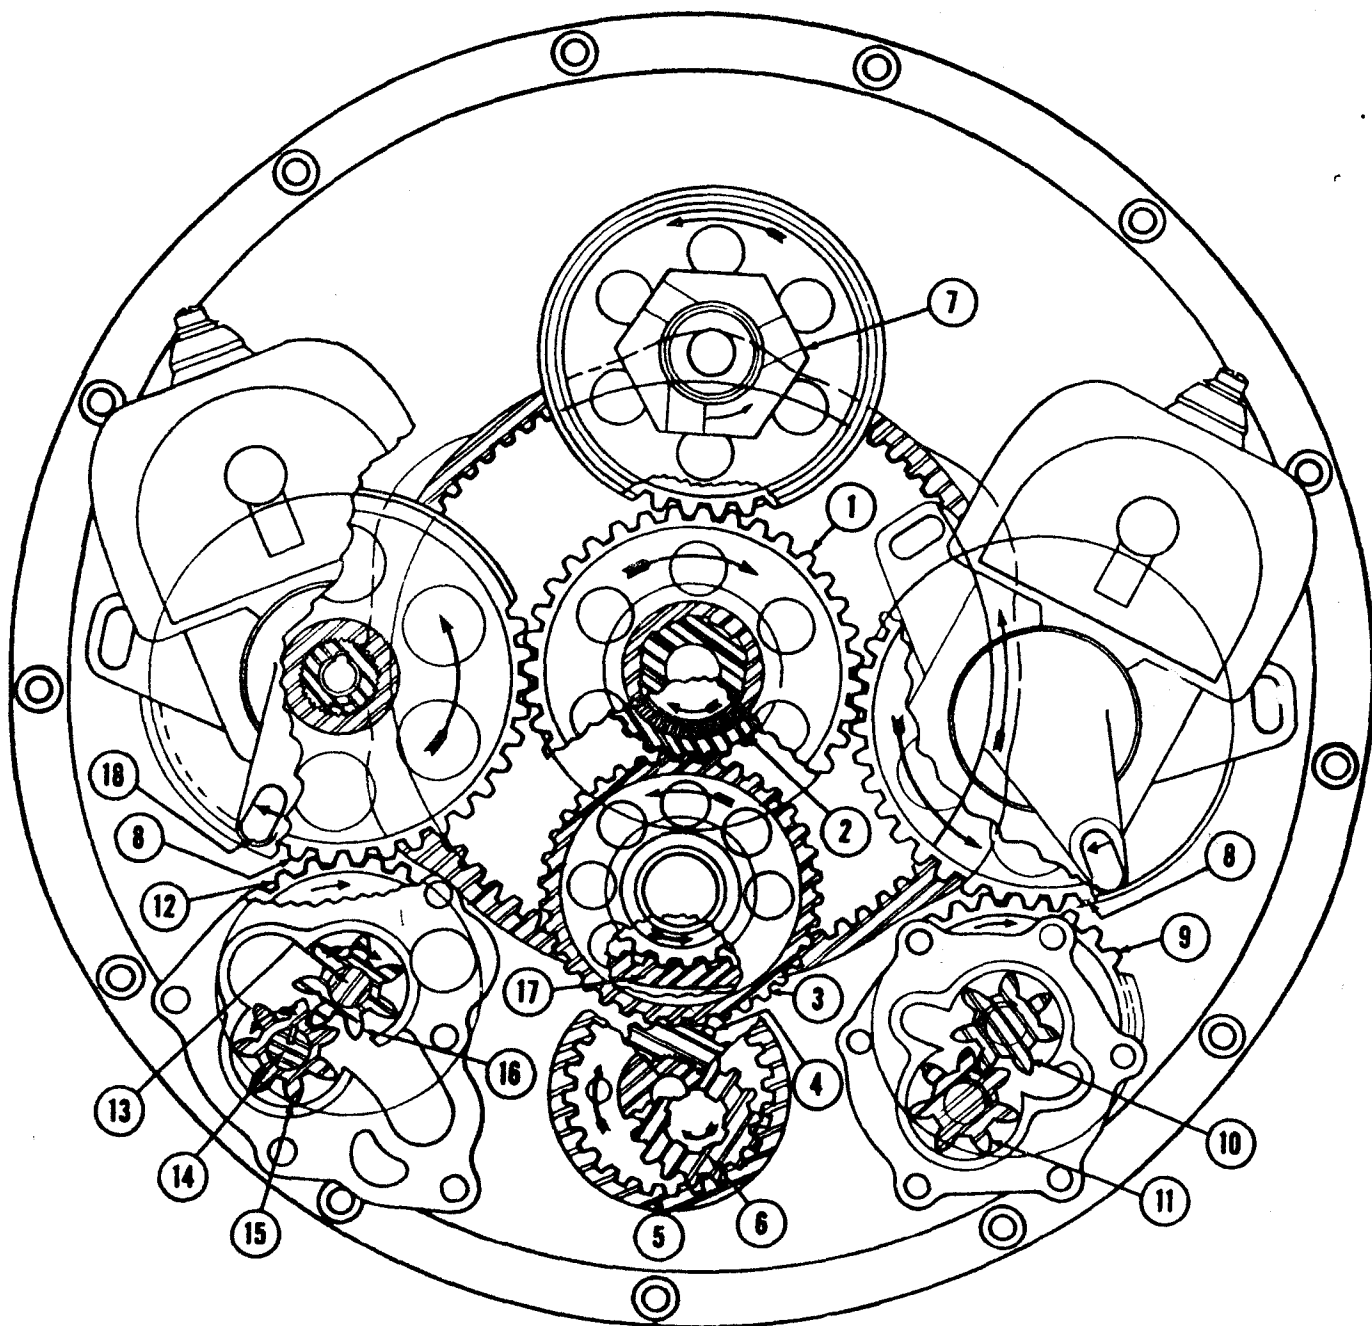

Figure 15 - Gear Train Analysis
4. ACCESSORY CASE (See figure 15)